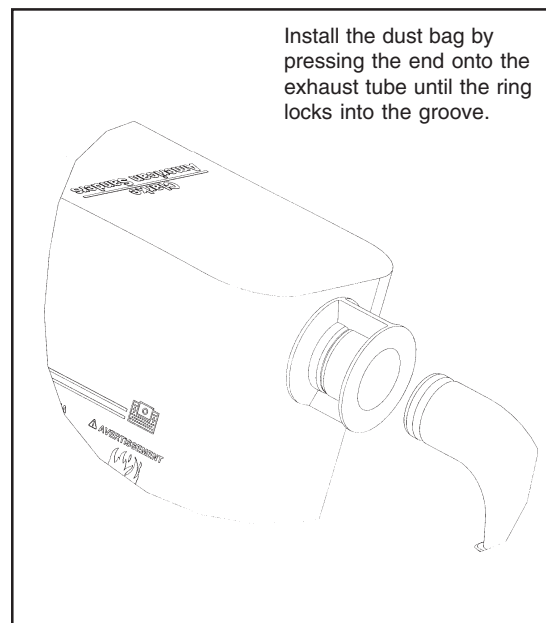

Figure 3.2
1. Install the dust bag by pressing the end onto the exhaust tube until the ring locks into the groove (figure 3.2). This is best done by pressing on the back of the bag opening with the palm of your hand.
⚠ DANGER: This appliance must be grounded. Should an electrical malfunction occur, the grounding conductor provides a path to harmful charge. Do not connect this appliance to any other wall outlet than than one of those shown in fig. 3.2. Consult an electrician if there is reason to doubt that the wall outlet is not wired correctly. Do not remove pin on the extension cord. Do not use the appliance with a damaged cord or connectors.